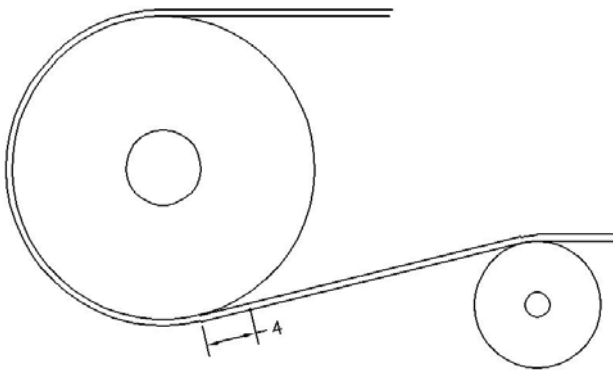

Fig 1
- 1) Inclined - The recommended blade position is 4" minimum from the nip point (tangent point) where the belt leaves the head pulley in the cases where snub pulleys are installed. (Figure 1)
Inspect area of installation. Ensure there are no cross braces, flanges, gussets, or other structure that will interfere with the belt cleaner installation or performance. If needed fabricate mounting brackets (Figure 1 – arrow) for the threaded spindles with holes to accept 5/8" bolts.